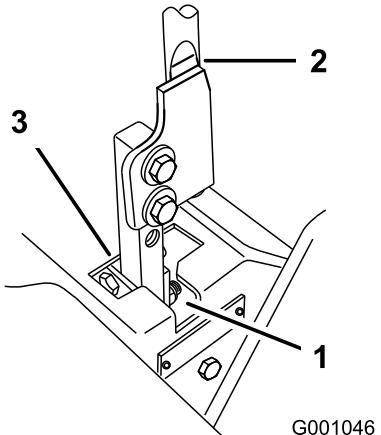

Figure 67
5. Move the lever to the neutral position but not locked (Figure 67).
6. Pull the lever back until the clevis pin (on arm below pivot shaft) contacts the end of the slot (just beginning to put pressure on the spring) (Figure 67).
7. Check where the control lever is relative to notch in console (Figure 67). It should be centered allowing lever to pivot outward to the neutral lock position.